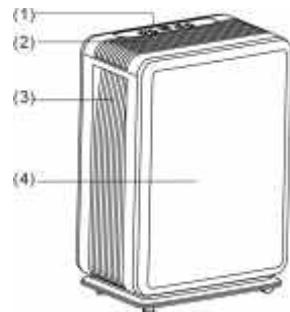

Fig. 1
**4. APPLIANCE DESCRIPTION (Fig. 1,2)**